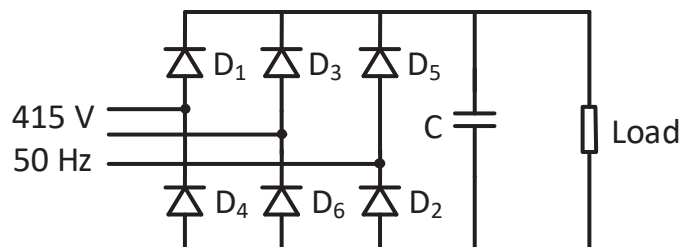

Fig. 2: Three phase rectifier
- (b) A three phase rectifier is shown in Fig 2. The load current is smooth with a DC value of 100 A.